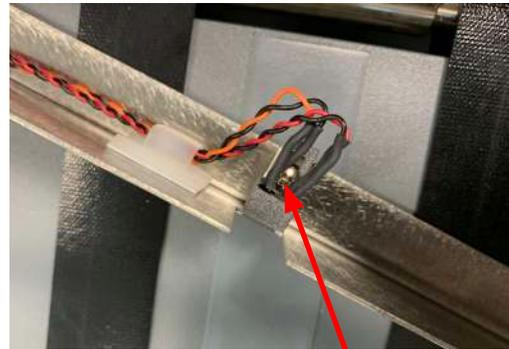

Fig. 65c
6. Remove the screw from the sensor mount (Fig. 65c).